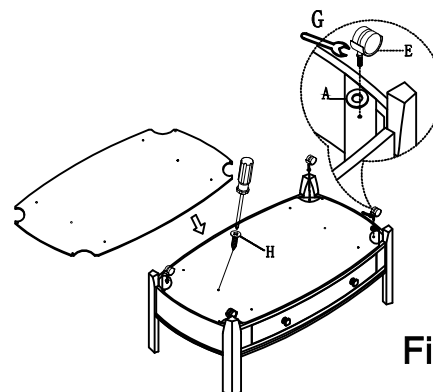

Figure 2
3. Attach the dust proof panel to the bottom of drawer box frame using Screw (H). Install the Casters (E) into the bottom rail with Flat Washer (A), Spanner Wrench (G) As shown in Figure 2 .